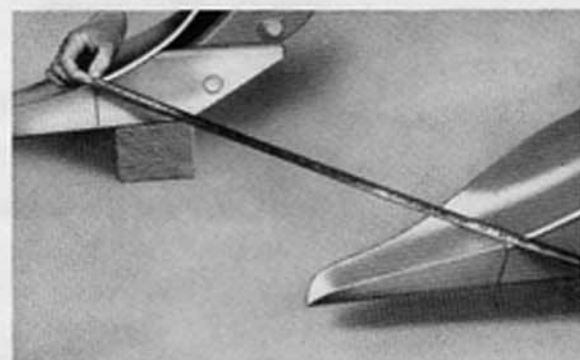
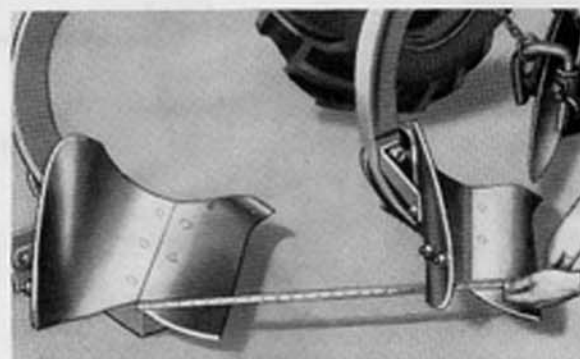

Fig. 15E
Fig. 15F
7. Check for bent saddles or beams by measuring the distance between the share-moldboard joint lines, at the landside of the shares, Fig. 15e, and at the wing of the shares, Fig. 15f. These dimensions should be the same with a tolerance of plus or minus  $\frac{1}{4}$ ".